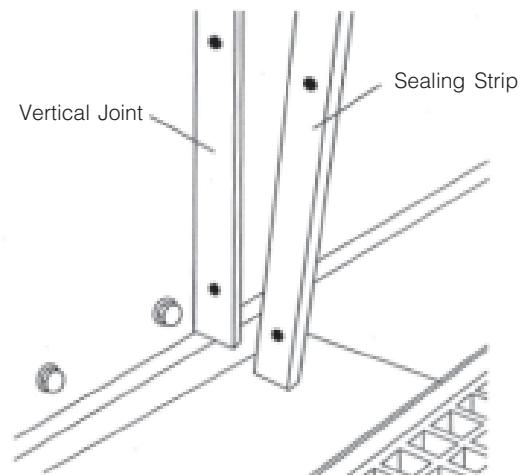

Figure 3-12. Install Side Panel
11. Install sealing strip over vertical joint (see Figure 3-12). Ensure numbers on sealing strip match the connecting panels.